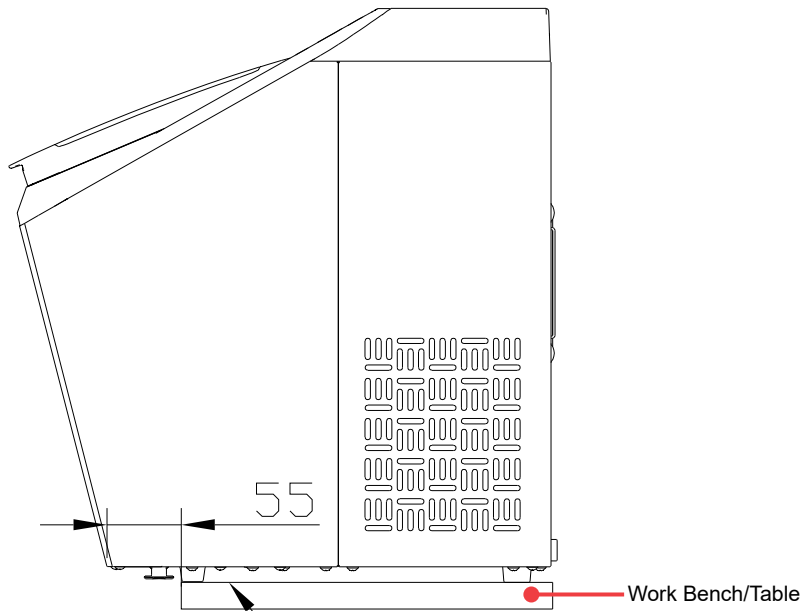
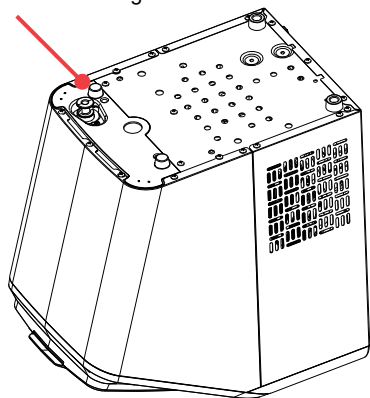
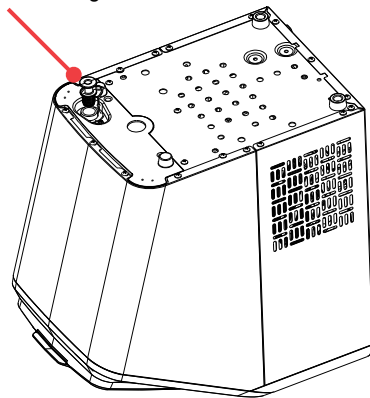

Fig. 1
Fig. 2
Fig. 3
3. Move the appliance forward 55-60mm away from the working table and remove the drain tube plug to drain excess water (see Fig.1, Fig.2 and Fig.3 on page 14).